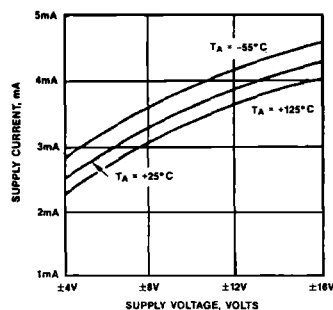

**Figure 13. Offset Adjustment**
**FEEDTHROUGH:** The amount of peak-to-peak output voltage present with one input grounded and a specified peak-to-peak input applied to the other input. Feedthrough is a function of multiplier offsets and can be minimized by offset adjustment (see Figure 13).
where  $\phi_x$  and  $\phi_y$  are the offset voltages associated with the respective inputs,  $\phi_o$  is the offset voltage of the output,  $V_z$  is the multiplier output,  $V_x$  and  $V_y$  are the multiplier inputs. As shown in Figures 13 and 14, each of these offset voltages can be nulled to zero by external adjustments.
Two of the gain-control terminals, pins 7 and 8, are also used for adjusting X and Y offsets. Figure 13 shows the typical adjustment circuitry which can be connected to these pins to null-out input offsets.